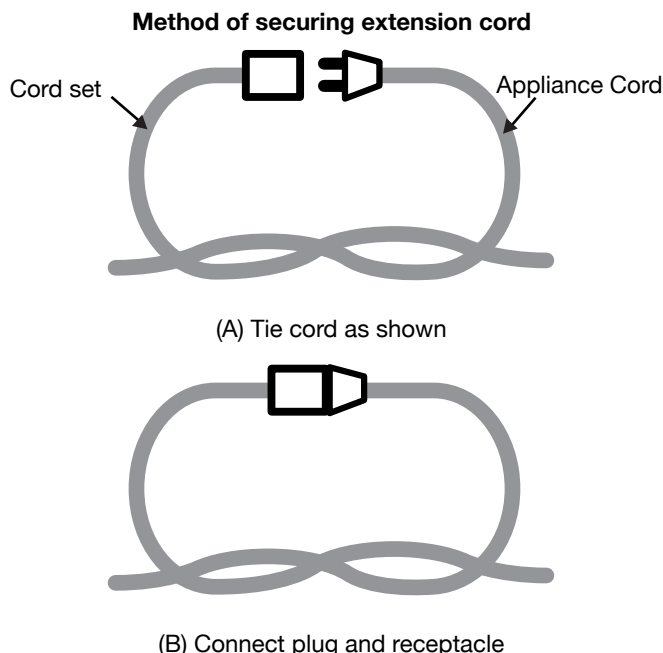

Figure 2
- i) Make a knob as shown in figure 2; or
- 3) Insert the steel flower guard into the lower motor cover and lock in place (Figure 2).